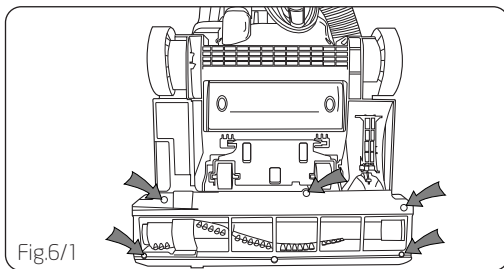

Fig6/1
Lay cleaner flat and flip cleaner to expose nozzle base (Fig.6/1).
Base should lay flat and face up. To remove nozzle guard, use Phillips screwdriver to remove the SIX (6) screws. Arrows show location of screws (Fig.6/1).